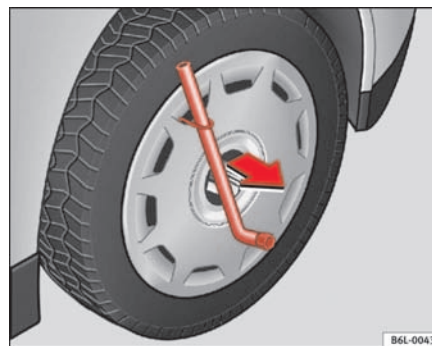

Fig. 130 Remove hub caps
- Remove the hub cap using the spanner and the wire hook\* ⇒ fig. 130.